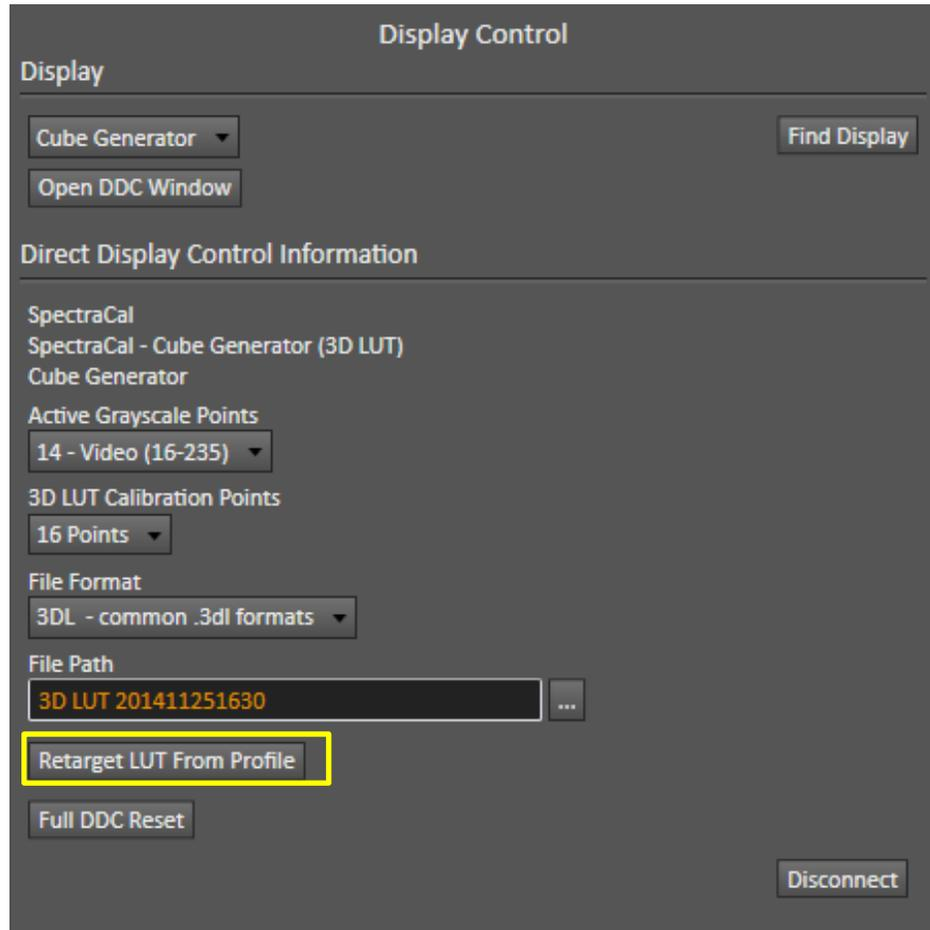

Figure 7: On the CalMAN *Display Control* tab, click the “Retarget LUT From Profile” button to create an additional LUT with different calibration targets.
1. On the CalMAN *Display Control* tab (Figure 7), click the “Retarget LUT From Profile” button.